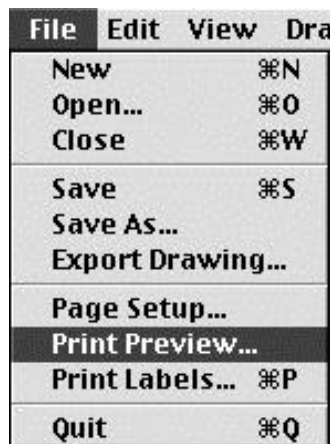

Figure 2-24 File Menu - Print Preview Command
2. Choose **Print Preview** from the **File** menu. See Figure 2-24.